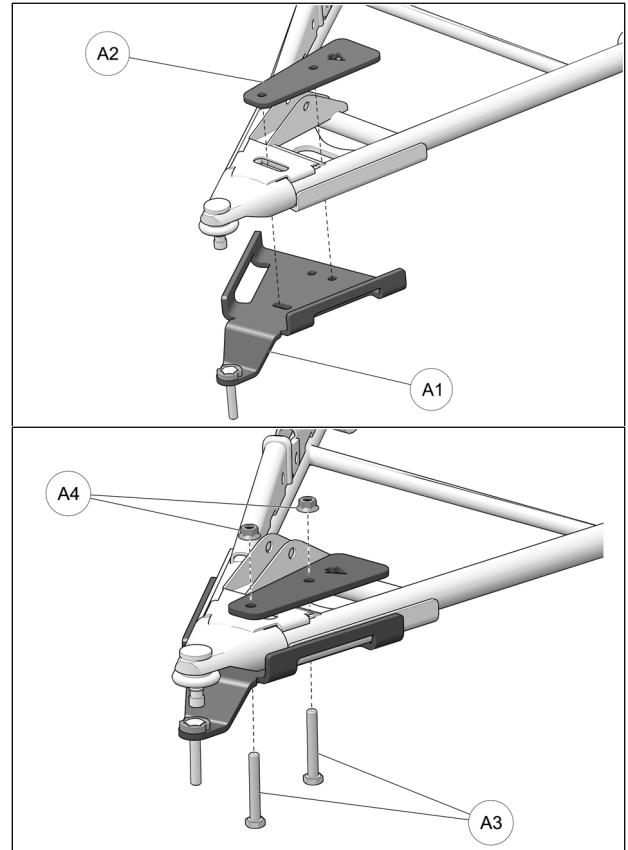

Fig. 12
6. Position bottom part of anchor bracket (A1) assembly under front lower suspension arm, as shown in the figure below. Position bracket cover (A2) over suspension arm and align holes in cover and bottom part. Insert the M10x70mm bolts (A3) from the bottom and secure the two parts together with the nuts (A4) provided. Tighten assembly to 50 N•m [37 lb•ft] of torque. Refer to Fig. 12